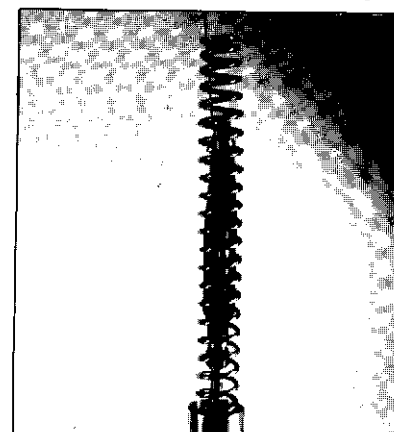

Fig. 11
- 23) Pull the piston rod up with the wire (Fig. 11).